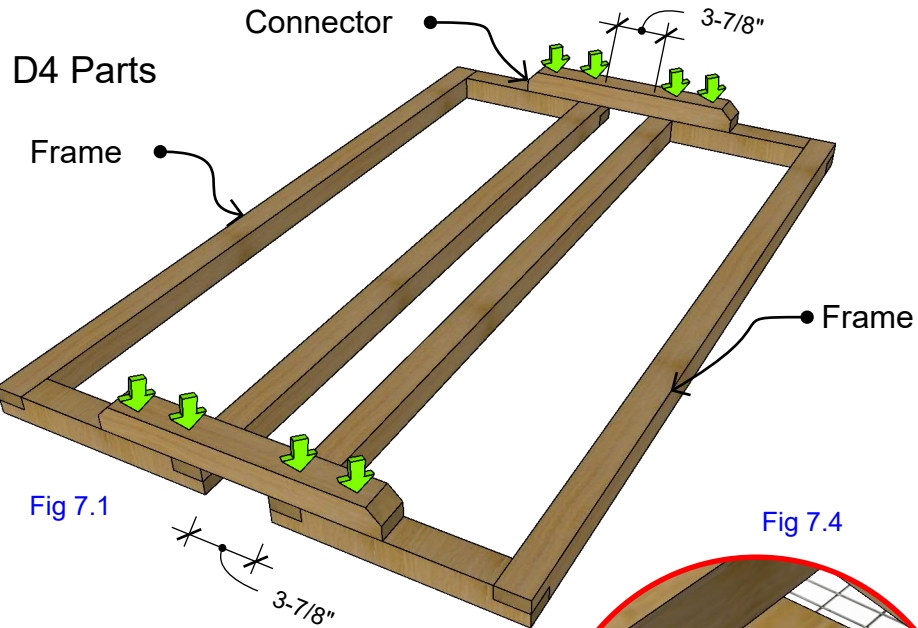

Fig 7.1
7.1 Connect Left & Right Frames: Using T25 screws into pre-drilled holes in connectors, layout two frames with 3-7/8" between them and connect as illustrated in Fig 7.1